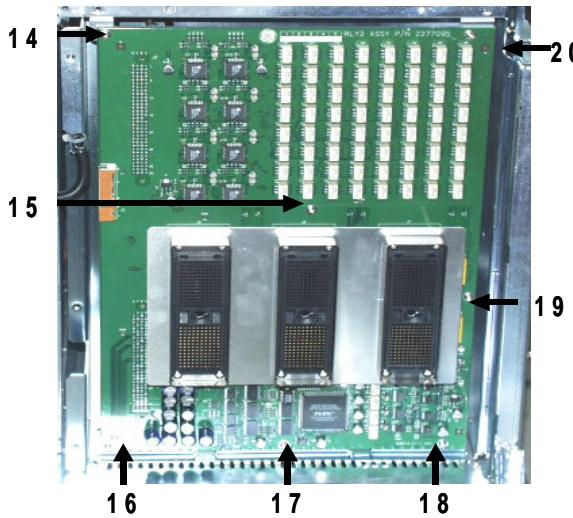

Figure 8-81 Unscrew 7 screws to remove the RLY Board
- 5.) Unscrew seven (7) screws (14-20) to remove the RLY Board. Refer to Figure 8-81.